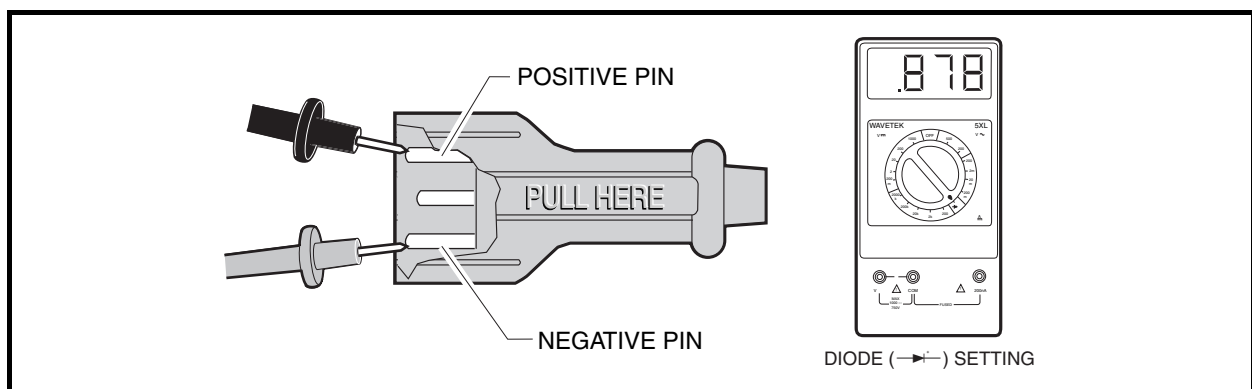

Figure 5-15 DC Plug Test – Probes Reversed
3. Reverse the test probes and check the DC plug again (**Figure 5-15, Page 5-18**). The multimeter should indicate approximately 878 mV.